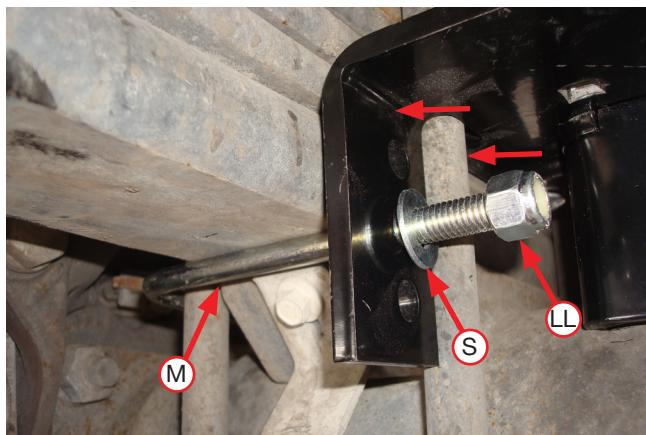

Fig. 30
- Install the U-bolt (M) around the stock U-bolt/leaf spring assembly and insert through the topmost holes in the lower bracket main plates (fig 30). Cap with 3/8" flat washer (S) and 3/8" nylon lock nuts (LL). Snug bolts evenly, just enough to hold the lower bracket main plate flush against the stock U-bolts.